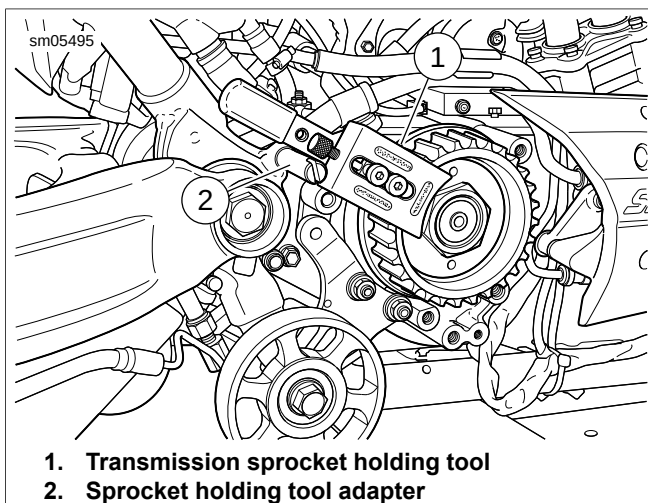

Figure 5-105. Sprocket Holding Tool and Adapter (installation XR 1200X)
- See Figure 5-105. On XR 1200X and XL models without passenger footrests, install FINAL DRIVE SPROCKET HOLDING TOOL REACTION ADAPTER (Part No. HD-46282-1A) into bottom footrest bracket hole in frame. Place handle of tool underneath adapter.
See Figure 5-105. On XR 1200X and XL models without passenger footrests, screw SPROCKET HOLDING TOOL ADAPTER (Part No. HD-46282-1A) into top footrest bracket hole in frame. Place handle of tool on top of adapter.